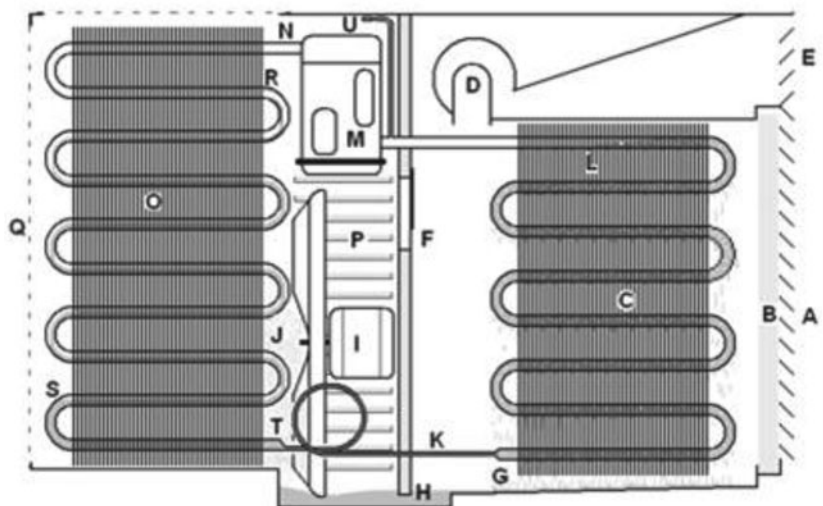
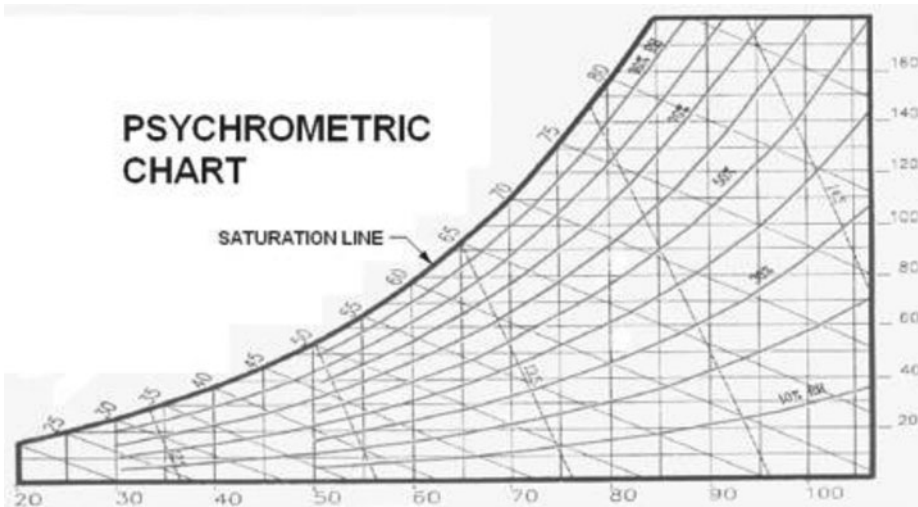

Figure 5-40. Window unit.
Figure 5-41. Psychrometric chart.
The typical window unit (Figure 5-40) is a packaged air conditioning system that incorporates a complete refrigeration cycle within it to transfer heat from the room to the atmosphere outside the window. Air from the room (A) is drawn into the unit through a filter (B) that cleans the air. The air passes over an evaporator coil (C) with fins which removes the heat from the air and condenses some of the moisture in the air. Then a fan (D) blows the air back into the room (E) at a high velocity so that it mixes with the rest of the room air to produce the comfortable condition. To achieve all of the requirements for air conditioning, there is usually a small damper (F) in the barrier between the indoor and outdoor air that can be opened to admit outside air into the flow of room air to be conditioned to achieve ventilation. Condensate, which is moisture removed from the room air, drips (G) into a drain pan at the bottom of the unit and passes through a trap (H) formed in the bottom of the casing to the outdoor side of the unit. A slinging ring, attached to the outside of the condenser fan (I), picks up the condensate and hurls it at the condenser (J). Heat from cooling the air and condensing the moisture is absorbed by the refrigerant, with flow into the evaporator controlled by a metering device, in Figure 5-40, a capillary (K), and for the typical window unit with R-134a, into the evaporator (C) at a pressure of 35 psig, which corresponds to a saturation temperature of 40°F. The boiling refrigerant absorbs the heat from the room air and condenses some
The diagram in Figure 5-40 shows a feature common on small equipment, a service stub (U). That short length of tubing is provided to permit attachment of a tapping valve to permit the connection of a gauge set (Figure 5-3) to determine the unit suction pressure and add or remove refrigerant, if necessary. A service stub is common on window units, residential refrigerators and freezers, wine coolers, etc. Whenever a tapping valve is used, it should be removed by first crimping the tubing between the location of the tapping valve and the suction line. Then, after removing the valve, trim the stub end and solder it closed. If the valve is left in place, it is likely that it will vibrate loose, followed by loss of all the refrigerant. A single connection is all that is required for equipment with a capillary for the throttling device because the manufacturer always provides tables for determining the proper charge of refrigerant based on load data and superheat or sub-cooling. One of the keys to understanding the operation of an air conditioning system is learning what is comfortable for occupants and how to get the air in the space to meet those comfort requirements. In order to do that, an understanding of psychometrics is required. Being able to use a psychrometric chart (Figure 5-41) is imperative.
used to describe them all. Psychrometrics provides an understanding of the systems and processes, as the air flows from the conditioned space, through the ductwork and apparatus, and then back to the conditioned space. A psychrometric chart can be more detailed than the one in Figure 5-41. The one shown here is much simpler because it does not contain all the values and lines that are on a complete psychrometric chart. It should be adequate for the purposes of an operator. Normally, the operator does not need to know the volume of the water and air mixture, the enthalpy, and other values that are used by the engineers to design a system.
people are more comfortable when they believe the guy operating the air conditioner is concerned about their comfort. Ignore the psychology and simply give some attention to air conditioning complaints. There are multiple scales on the psychrometric chart. Some explanation is necessary. The horizontal scale read at the bottom of the chart is identified as the dry bulb (DB) temperature. The vertical lines from that scale are representative of that temperature. The vertical scale on the right side of the chart in Figure 5-41 is in grains of water per pound of dry air (a grain being one seven thousandth